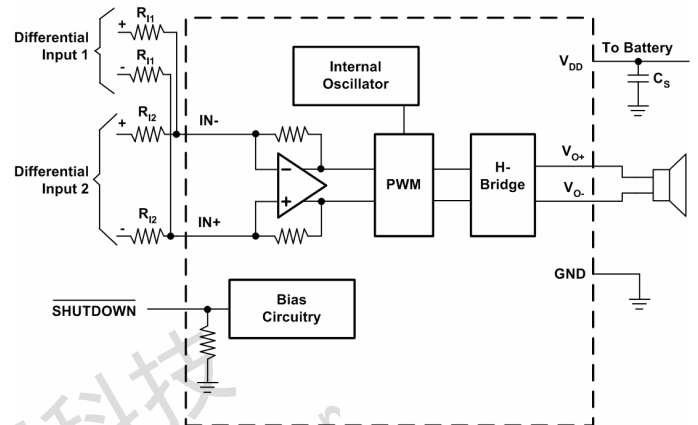

Figure 33. Dual Differential Input Configuration
The EUA2036 can be used to amplify more than one audio source. Figure 33 shows a dual differential input configuration. The gain for each input can be independently set for maximum design flexibility using the R_I resistors for each input and Equation (1). Input capacitors can be used with one or more sources as well to have different frequency responses depending on the source or if a DC voltage needs to be blocked from a source.